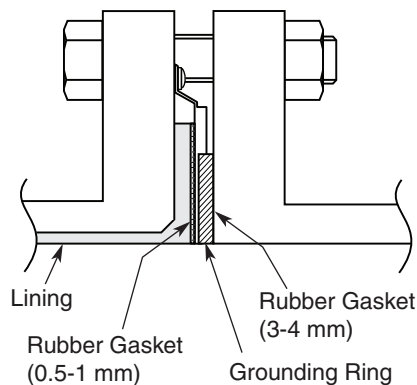

Figure 32. Installation on PVC Pipe with non-316 ss Grounding Ring
1. Use this method to install the flowtube to the specified fastening torque. Install the flowtube as shown in Figure 32. See Table 6 for the appropriate fastening torque. For dimensions of the rubber gaskets, refer to Tables 4 and 5.